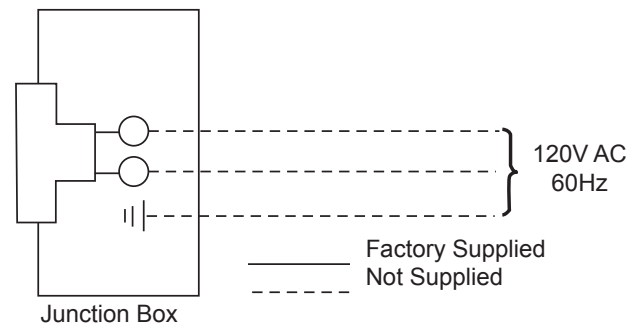

**Figure 53 -
3. The junction box cover has a factory installed "romex" style strain relief connector. After connecting the wires, route the wire leads through this connector. Refer to the wiring diagram in *Figure 53*.